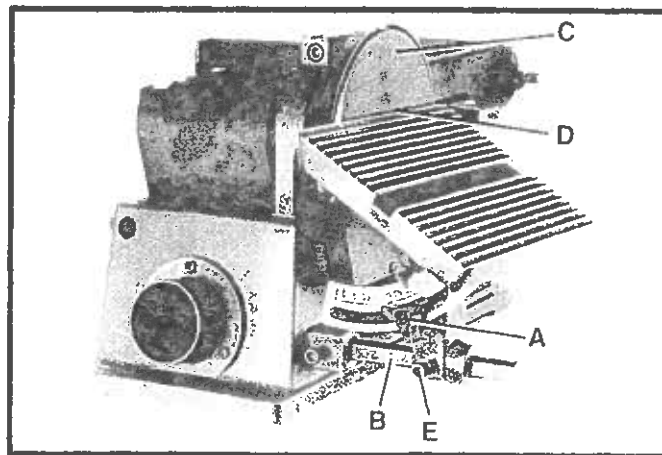

Fig. 30
1. The table can be tilted up to 45 degrees to the right by loosening the table lock knob (A) Fig. 30, tilting the table to the desired angle, and tightening table lock knob (A).
2. **WARNING: AFTER TILTING, THE TABLE ASSEMBLY MUST BE REPOSITIONED ON THE SUPPORT ROD (B) FIG. 30, TO PROVIDE A MAXIMUM OF 1/16 INCH DISTANCE BETWEEN THE SANDING DISC (C), AND THE EDGE (D) OF THE TABLE, TO AVOID TRAPPING THE WORK OR FINGERS BETWEEN THE DISC AND TABLE. TO REPOSITION THE TABLE ASSEMBLY, LOOSEN SCREW (E), MOVE TABLE ASSEMBLY ON ROD (B), AND TIGHTEN SCREW (E).**